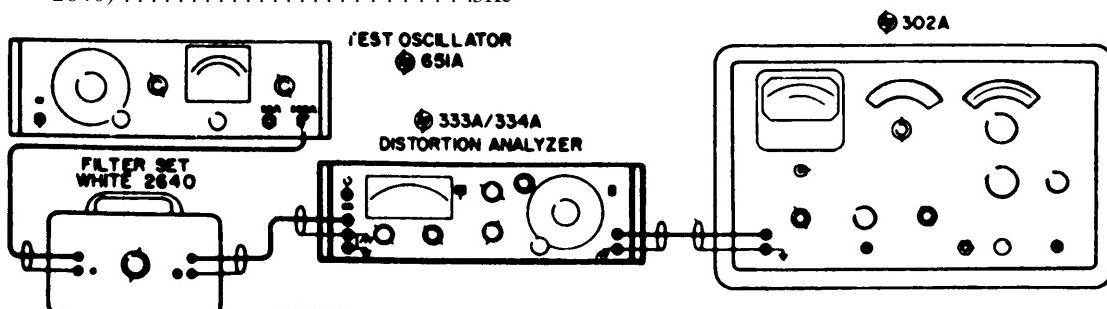

Figure 5-1. Test Setup for Fundamental Rejection Check
- a. Connect 331A/332A as shown in Figure 5-1.